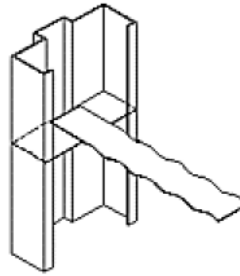

Figure 4A
2. The T-strap and Wire Loop anchors (Figures 4a and 4b) are shipped loose and are approved for use in fire rated frames.